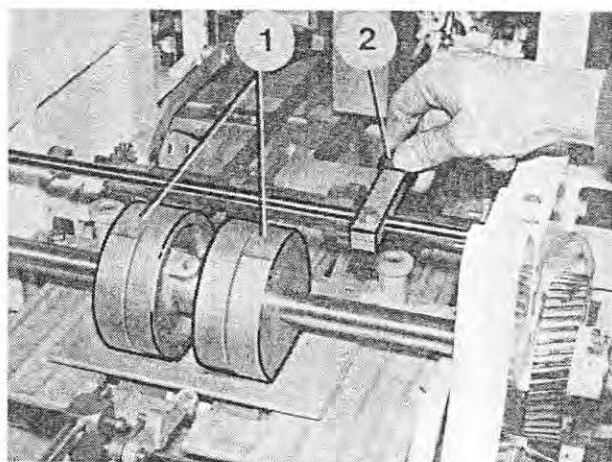

Fig. 94
7. Raise the advance segments (Figure 94/1) by reversing the lever (Figure 94/2).